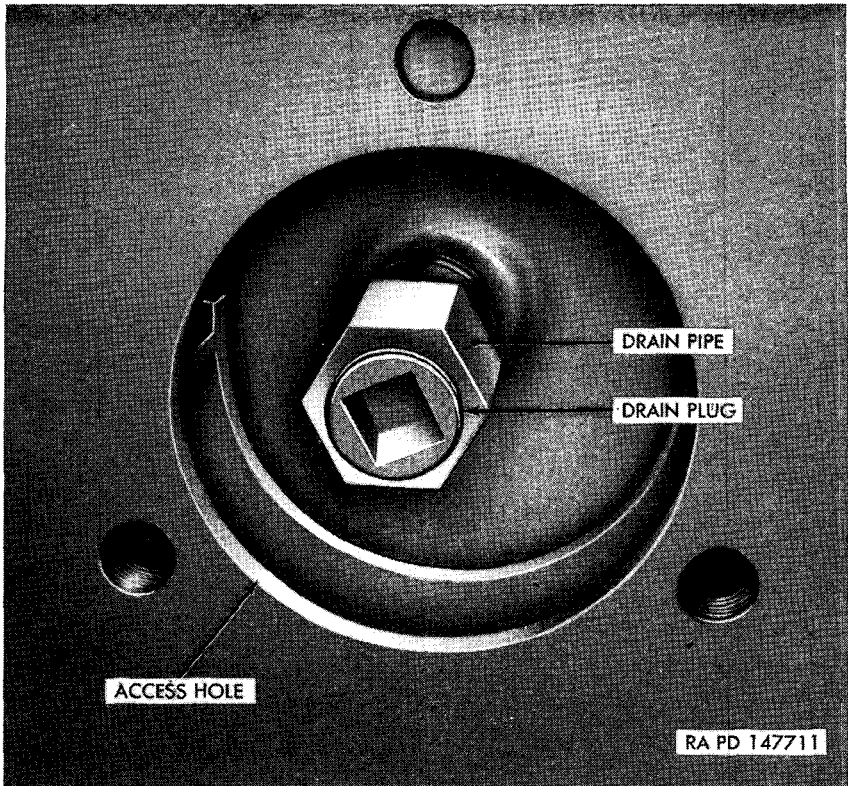

Figure 151. Fuel tank drain plug.
b. **DRAINING.** From below the vehicle, remove the fuel tank drain access hole covers (fig. 285). Provide suitable clean containers with a total capacity of 133 gallons for draining the left tank, and 100 gallons for the right tank. Position the containers under the drain opening and remove the drain plug (fig. 151). After draining, inspect the cover gasket. Install the drain plug, gasket, and access hole cover.
c. REMOVAL. Remove top deck (par. 158*b*). Remove power plant (par. 159). Drain fuel tanks (*b* above), and remove drain pipe (fig. 151). Remove fuel tank shut-off valves (par. 178).